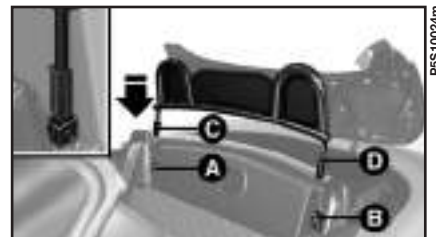

fig. 70
The wind stop is located behind the seats **fig. 70**. It increases driving comfort at all speeds by limiting the air turbulence created in the passenger compartment when travelling with the hood open.
3) Fit the ends of the wind spot **C** and **D** **fig. 70** inside the previously fitted brackets. Make sure that the wind stop cover is facing the rear part of the car.